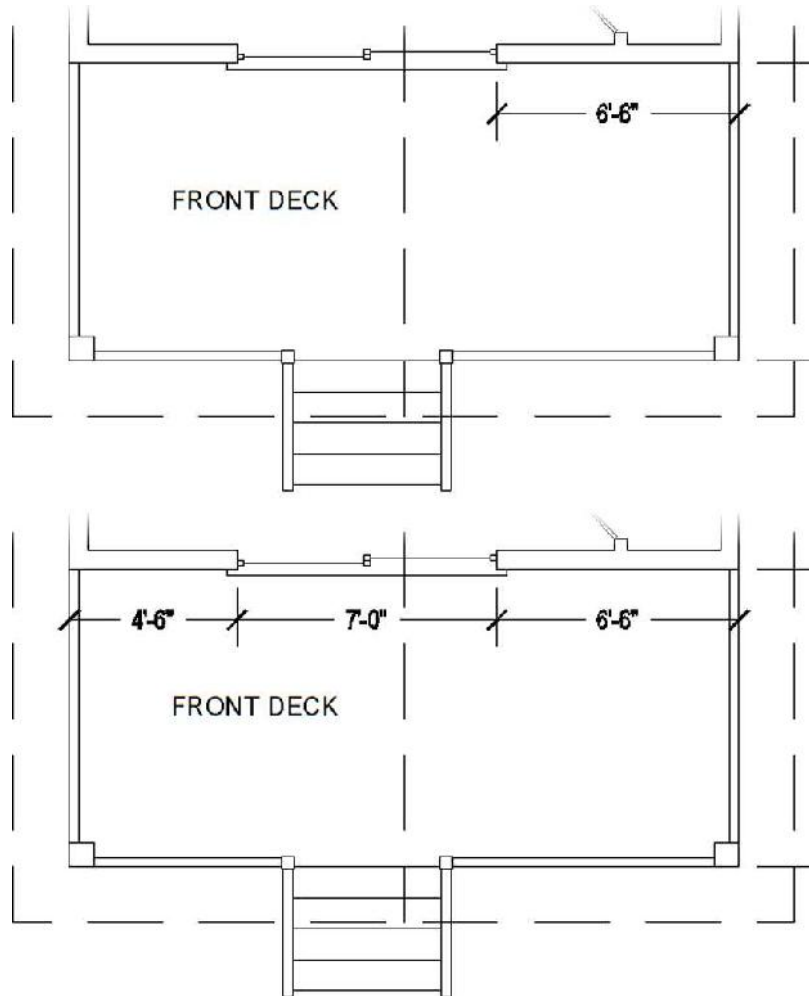

FIGURE 12.23: The dimension drawn to the start of the sliding door opening (top), and the completed first set of vertical dimensions (bottom)
6. Adjust the location of the text if needed (see the top image of Figure 12.23).
7. Use the Dimension Continue tool and grips to draw and edit the remaining two dimensions for the front of the cabin (see the bottom image of Figure 12.23).